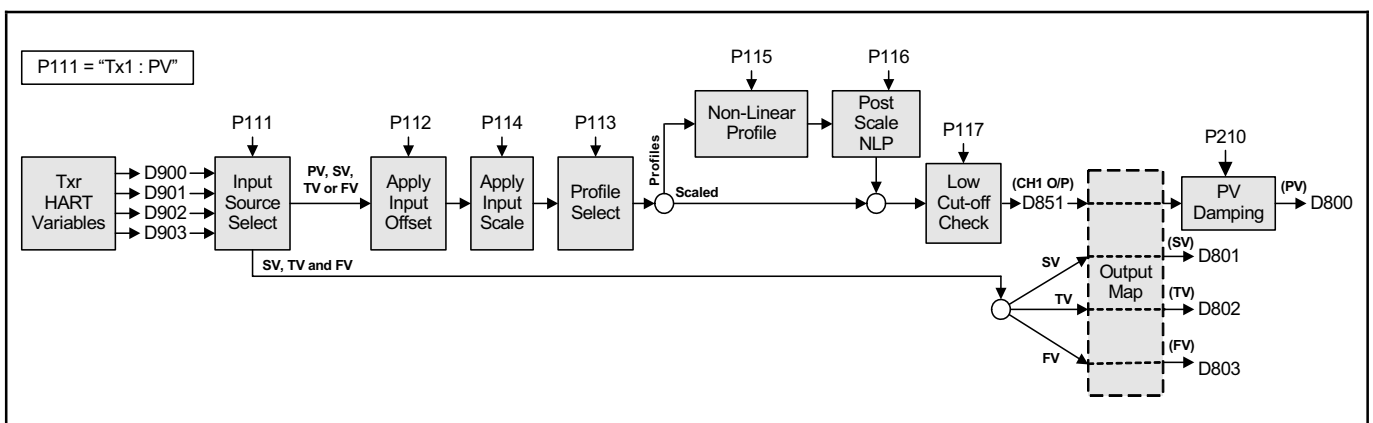

Figure 15: HART Input - Process Blocks and Parameters (MCU Channel 1)
Figure 15 illustrates an overview of the data flow through the channel.
5.4.1.2. HART digital input (Data flow diagram Figure 15)
5.4.2.2. HART digital input (Data flow diagram Figure 15)